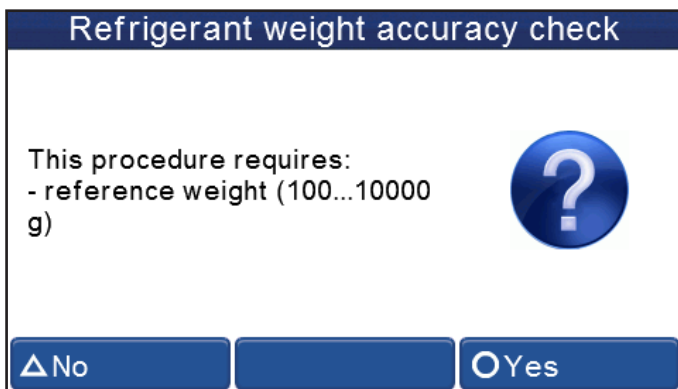

Fig. 54: Refrigerant weight check screens
5. Press **YES** to continue when the screen in Fig. 54 appears.